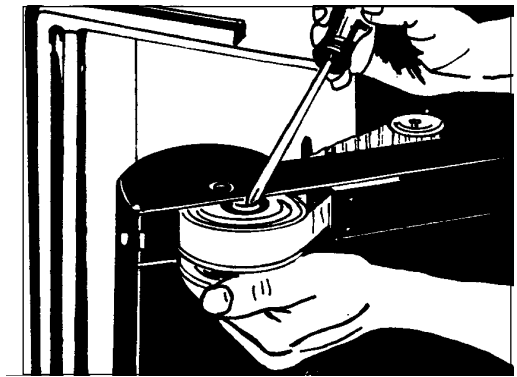

Figure 21
3. Make sure the spacer is in position between the outside frame and the pulley. See figure 21.